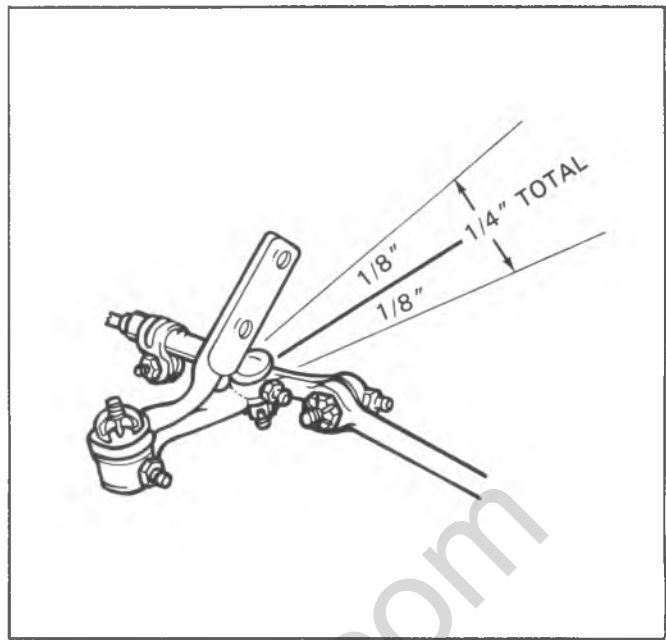

Fig. 3B1-10--Checking Idler Movement, Typical
2. Install the relay rod to the idler arm and pitman arm ball studs, making certain the seals are in place. Use J-23193 or J-23194 to seat the tapers, as shown in Fig. 3B1-6. A torque of 20 N·m is required. With the tapers seated, remove the tool. Install and tighten a torque prevailing to 54 N·m (40 ft. lbs.).
2. Using a push pull type spring scale located as near the relay rod end of the idler arm as possible, exert a 25 lb. force upward and then downward while noticing the total distance the end of the arm moves. This distance should not exceed $\pm 1/8$ inch for a total acceptable movement of 1/4 inch (Figure 3B1-10). It is necessary to ensure that the correct load is applied to the arm since it will move more when higher loads are applied. It is also necessary that a scale or ruler be rested against the frame and used to determine the amount of movement since observers tend to over-estimate the actual movement when a scale is not used. The idler arm should always be replaced if it fails this test.
2. Remove the nut from ball stud at the relay rod. Remove the ball stud from the relay rod by tapping on the relay rod boss with a hammer, while using a heavy hammer as a backing (Fig. 3B1-7).